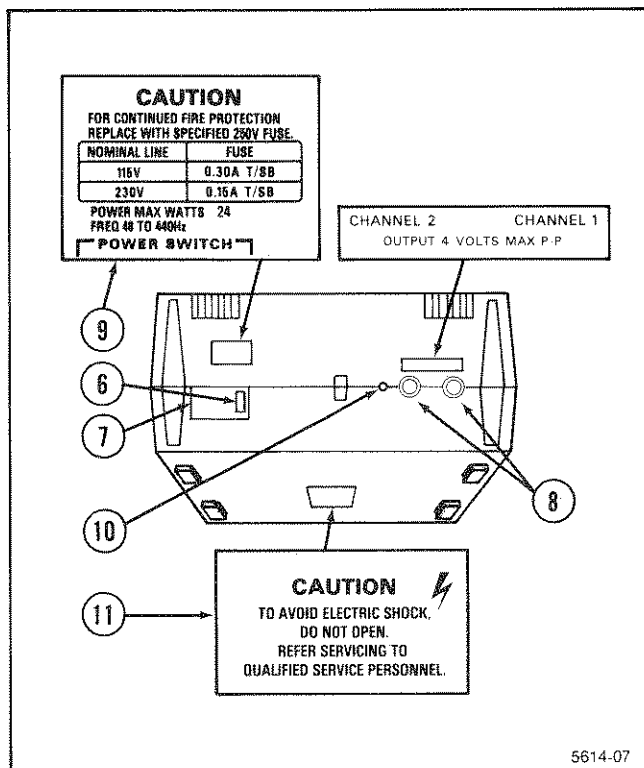

Figure 3-2. Rear- and bottom-panel controls, connectors, and labels.
Refer to Figure 3-2 for the location of items 6 through 10.
- ⑥ **POWER SWITCH** controls application of ac power to the Isolator. An indicator light on the front panel is actuated when the power switch is in its "on" position (1).
- ⑦ **POWER CONNECTOR/VOLTAGE SELECTOR** allows the connection of the ac power cord to the Isolator. The connector is an IEC connector, and includes the Voltage Selector/Indicator for alternative line voltage, (fully discussed in the "Preparation For Use" section of this manual.)
- ⑧ **OUTPUT VOLTAGE** connectors make available the output of Isolator Channels 1 and 2.
- ⑨ **CAUTION** label provides fuse replacement and line voltage information.
Refer to Figure 3-2 for the location of item 11.
- ⑪ **CAUTION** label warns operators not to open the A6902B case.